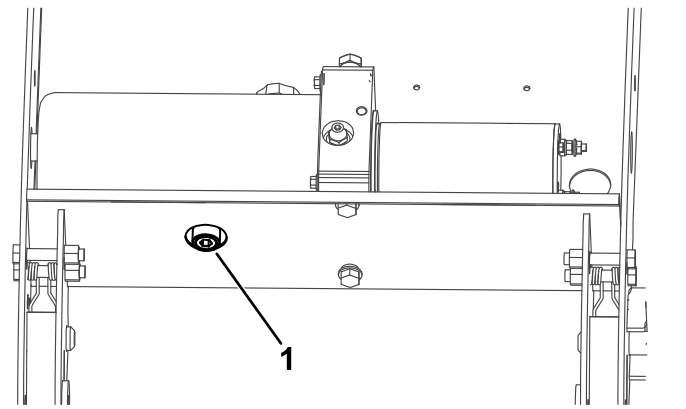

Figure 31
5. Clean the area around the drain plug (Figure 31).